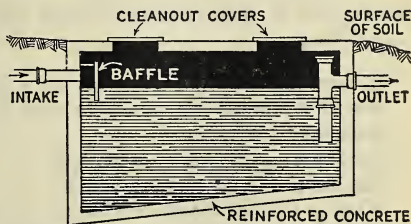

Fig. 24. A septic tank, sometimes called a sedimentation tank.
72. Septic tanks better than cesspools. The septic tank is an improvement on the cesspool. This is an earthenware or cement box placed in the ground so that the waste drains into it (Fig. 24). Leading from the tank is a soil pipe or vitrified pipe,